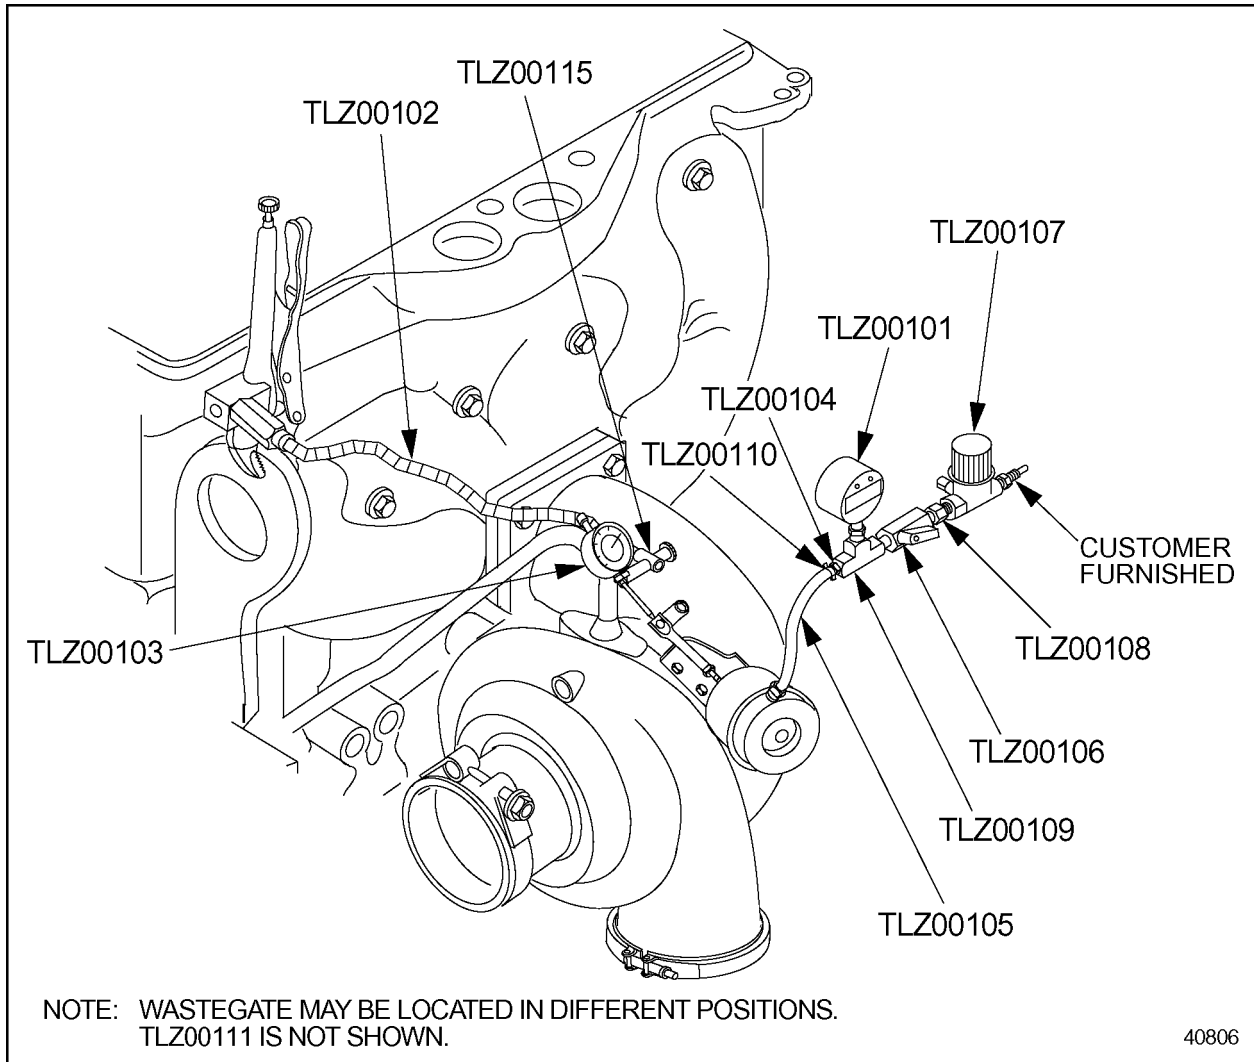

Figure 1. TLZ00100 Wastegate Calibration Tool Set-Up
2. Clamp vise-grip assembly (TLZ00102) to a convenient location. See Figure 1.